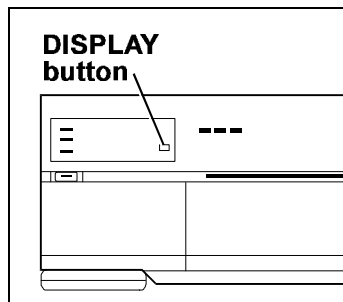

Figure 6-27. TX-2000 DISPLAY Button
- c. Save the new setting and exit from the menus by pressing the DISPLAY button (Figure 6-27).